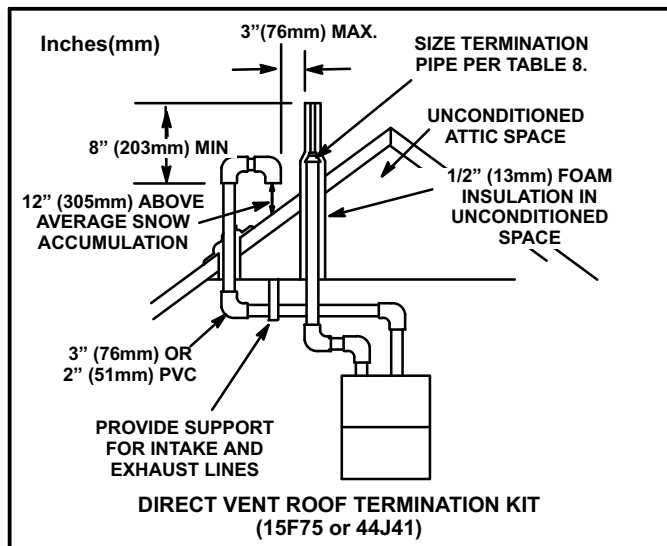

FIGURE 24
Intake and exhaust pipes may be routed either horizontally through an outside wall or vertically through the roof. In attic or closet installations, vertical termination through the roof is preferred. Figures 24 through 36 show typical terminations.
- 3 - On roof terminations, the intake piping should terminate straight down using two 90° elbows (See figure 24).